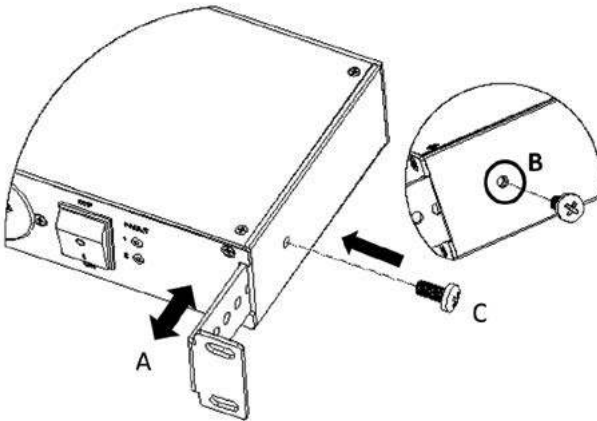

Figure 2
- (A) The bracket can be adjusted to accommodate the depth of the plugs that are connected. The bracket has a stop point limit and can be adjusted from flat, level with the front panel to its maximum point of travel as shown by the arrows in Figure 2 A.
- (C) Fit the M6 Screw provided in the packet to secure the bracket. The hole in the bracket is pretapped to suit the screw. One screw per bracket. As shown in Figure 2 C.